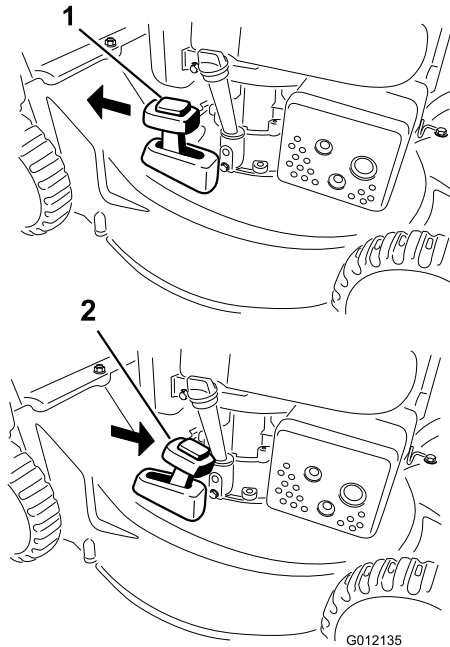

Figure 16
To recycle the clippings, move the bag-on-demand lever to the **recycling** mode (Figure 16).
2. Install the grass bag; refer to Removing the Grass Bag (page 11) and move the bag-on-demand lever to the **bagging** mode (model 20836 only) as shown in Figure 16.
Note: If the grass bag is on the machine, remove it before rear-discharging the clippings; refer to Removing the Grass Bag (page 11). The bag-on-demand lever should be in the **bagging** mode (model 20836 only) as shown in Figure 16.